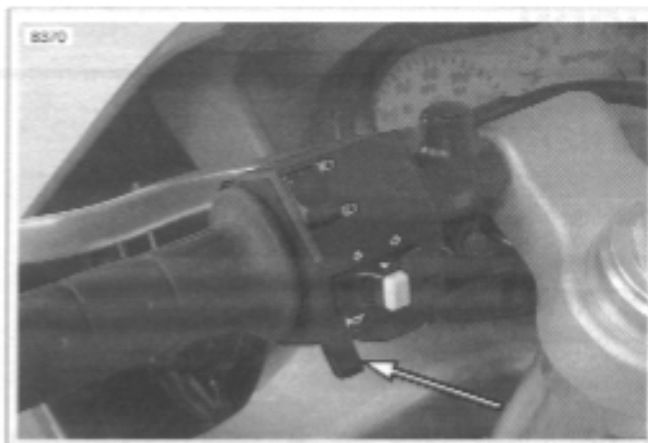

Figure 7-66. Horn Switch
3. See Figure 7-66. Depress horn switch and observe voltmeter reading.